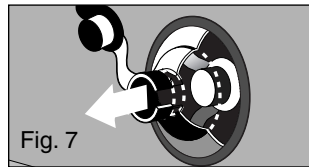

Fig. 7
2. Open the cap and pull out firmly on the Double-Lock™ Release Valve to open internal seal (see Figure 7).